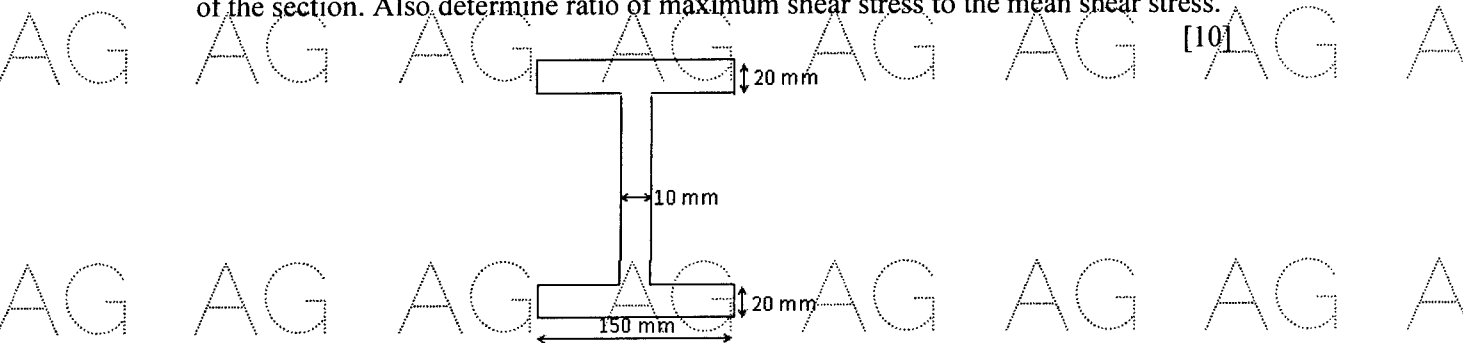

Figure 4
7. A steel beam of depth 250 mm has cross-section as shown in Figure 4. The beam section is subjected to a shear force of 150 kN. Draw the shear stress distribution across the depth of the section. Also determine ratio of maximum shear stress to the mean shear stress. [10]